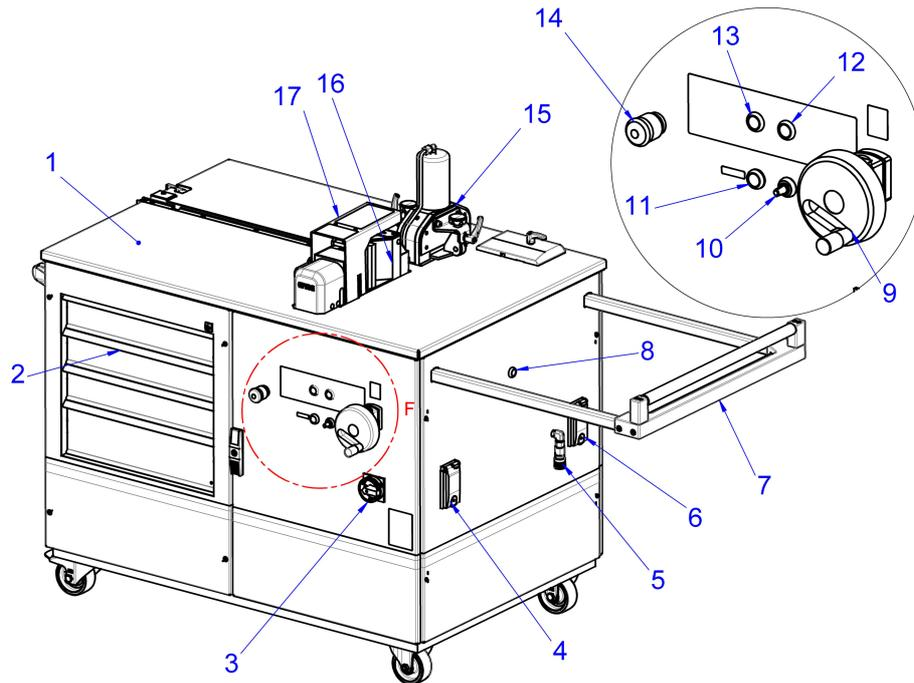
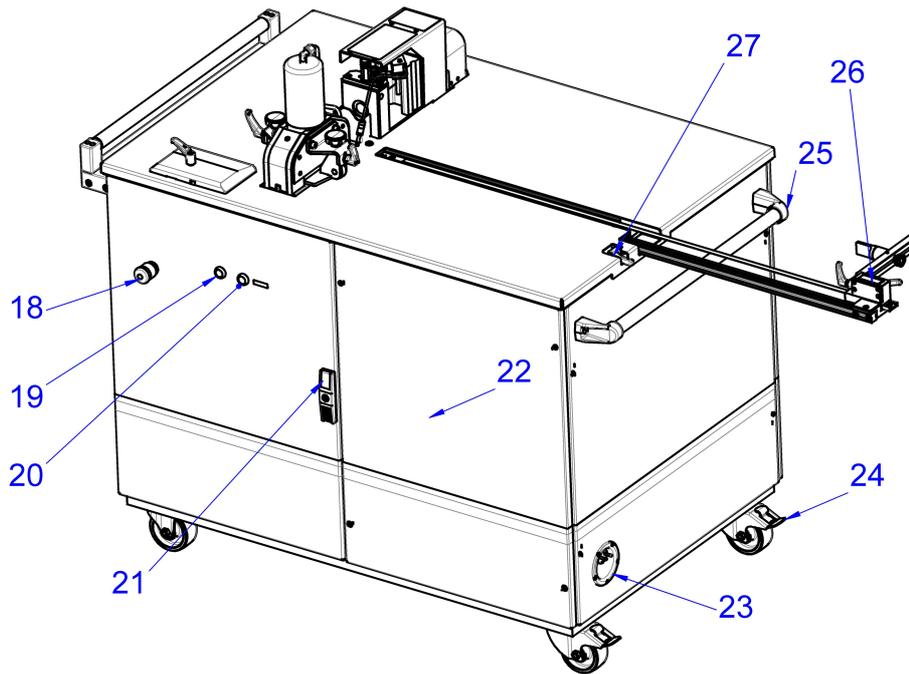

Fig. 1: Front view
Fig. 2: Rear view
The single-pedal safety foot-operated switch is connected to the "Busbar machining, mobile" via a socket (fig. 1, 4). Four push-buttons (fig. 1, 8, 12, 13 and fig. 2, 19) serve to select the desired machining station. Machining is possible on only one station. The cutting unit (fig. 1, 15) for shortening busbars as well as the bending and hole-punching unit (fig. 1, 16) are surrounded by a stable, abrasion-resistant table top (fig. 1, 1) made of stainless steel. The table top has an integrated limit stop that can be extended to 1200 mm (fig. 2, 26) for use by all work stations.
An additional hydraulic connection (fig. 1, 5) permits the connection of external hydraulic units to augment the existing work stations. To simplify the machining of long workpieces, the "Busbar machining, mobile" is equipped with an extendible support roller (fig. 1, 7).
Two emergency stop switches (fig. 1, 14 and fig. 2, 18) can stop the hydraulic pump immediately in dangerous situations and allow the tool to be returned to its initial position. The deployment of a frequency converter allows the travel speed of the tools to be set using a potentiometer (fig. 1, 10). During hole cutting and punching, the main body is protected with a stable safety protection hood (fig. 1, 17). The height of the main body can be adjusted easily with a rotary knob (fig. 1, 9) in accordance with the display for the height setting. Four lockable, large drawers (fig. 1, 2) offer sufficient storage space for the deployed tools and work aids. A collection vessel for copper scraps is located behind the door (fig. 2, 21) next to the electric switch cabinet (fig. 2, 22). The mains cable (fig. 2, 23) is embedded in the side panel of the "Busbar machining, mobile" and, when required, can be extended to the maximum length of 4.5 m or rolled in completely.
- Then insert the supply cable of the foot-operated switch in the 4-pole connector (fig. 1, 4).
- Set the mains switch of the "Busbar machining, mobile" at (I) to place the unit in ready mode.
The lasers are switched on and off with the push-buttons (fig. 1, 11 and fig. 2, 20). To extend the service life of the lasers, they switch themselves off independently after 15 minutes. The lasers are switched on again by briefly pressing the foot-operated switch or by pressing the appropriate push-button.
- Adjust the height of the main body with a rotary knob (fig. 1, 9) and align the bending die centred with the workpiece.